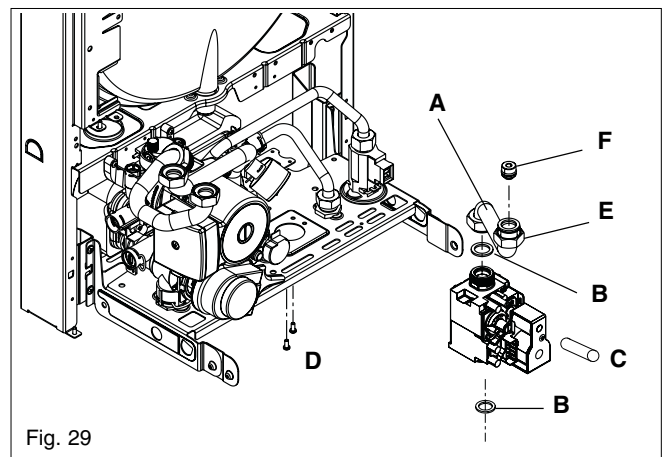

Fig. 29
The gas valve must be changed as complete unit. Disconnect the electrical plug and leads from the gas valve, loosen and unscrew gas valve inlet (A, fig. 14) and outlet (A, fig. 29) connections. **Please note**, the sealing washers (B) must be discarded and replaced with new sealing washers. Disconnect the compensation pipe (C). Locate and remove gas valve retaining screws (D) on the underside of the boiler if required, the gas valve can now be removed. Replace in the reverse order. Check and adjust burner pressure settings.
6.12.1 INJECTOR (fig. 29)